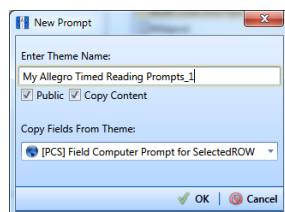

Figure 8-25. New Prompt
- 5 Click  **Add** to open the *New Prompt* dialog box (Figure 8-25).